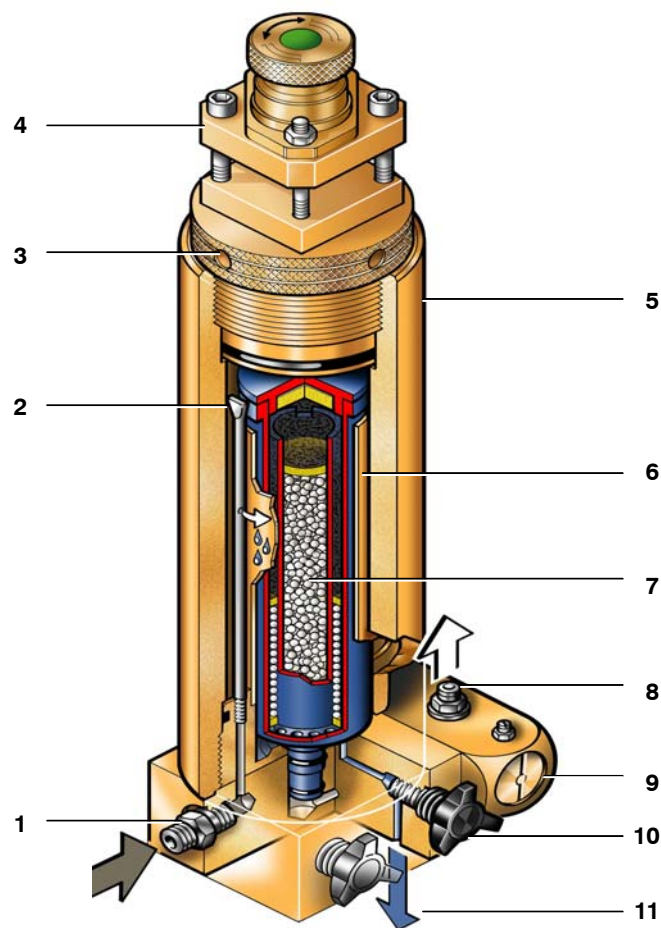

Fig. 29 Filter system P21
The air leaving the final stage is cooled in the after-cooler to approx. 10 - 15 °C (18 - 27 °F) above ambient temperature and then enters filter system **P21** with **TRIPLEX** long-life cartridge (Fig. 29).
- Remove filter head (3, Fig. 29).